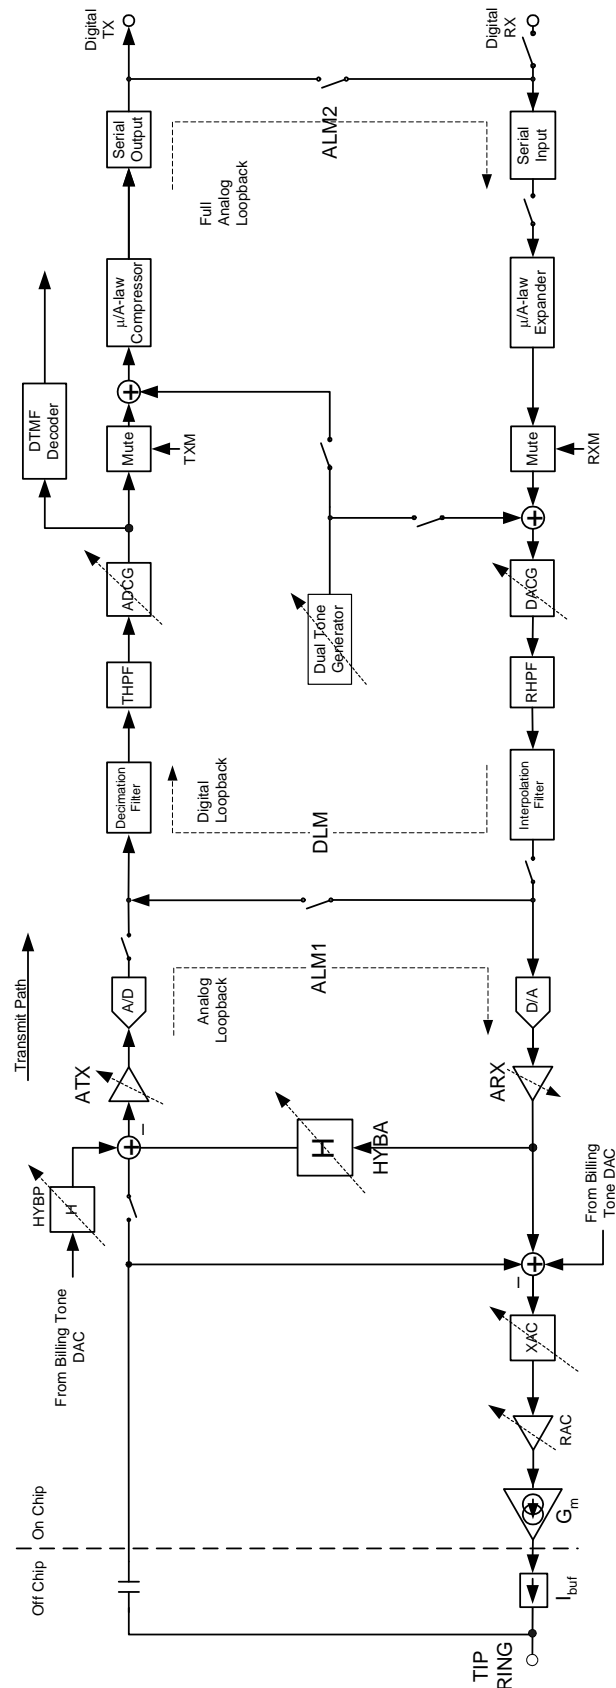

Figure 25. AC Signal Path Block Diagram
Unlike traditional SLICs, the codec function is integrated into the ProSLIC. The 16-bit codec offers programmable gain/attenuation blocks and several loopback modes. The signal path block diagram is shown in Figure 25.
The block diagram for the voice-band signal processing paths is shown in Figure 25. Both the receive and transmit paths employ the optimal combination of analog and digital signal processing to provide maximum performance while offering sufficient flexibility to allow users to optimize for their particular ProSLIC application. All programmable signal-processing blocks are indicated symbolically in Figure 25 by a dashed arrow across them. The two-wire (TIP/RING) voice-band interface to the ProSLIC is implemented using a small number of external components. The receive path interface consists of a unity-gain current buffer,  $I_{BUF}$ , while the transmit path interface is simply an ac coupling capacitor. Signal paths, although implemented differentially, are shown as single-ended for simplicity.
The ProSLIC provides programmable transhybrid balance with gain block H. (See Figure 25.) In the ideal case, where the synthesized SLIC impedance exactly matches the subscriber loop impedance, the transhybrid balance should be set to subtract a  $-6$  dB level from the transmit path signal. The transhybrid balance gain can be adjusted from  $-2.77$  dB to  $+4.08$  dB around the ideal setting of  $-6$  dB by programming the HYBA[2:0] bits of the Hybrid Control register (direct Register 11). Note that adjusting any of the analog or digital gain blocks will not require any modification of the transhybrid balance gain block, as the transhybrid gain is subtracted from the transmit path signal prior to any gain adjustment stages. If desired, the transhybrid balance can also be disabled using the appropriate register setting.
- The full analog loopback (ALM2) tests almost all the circuitry of both the transmit and receive paths. The compressed 8-bit word transmit data stream is fed back serially to the input of the receive path expander. (See Figure 25.) The signal path starts with the analog signal at the input of the transmit
- An additional analog loopback (ALM1) takes the digital stream at the output of the A/D converter and feeds it back to the D/A converter. (See Figure 25.) The signal path starts with the analog signal at the input of the transmit path and ends with an analog signal at the output of the receive path. This loopback option allows testing of the analog signal processing circuitry of the Si3210 to be carried out completely independently of any activity in the DSP.
- The full digital loopback tests almost all the circuitry of both the transmit and receive paths. The analog signal at the output of the receive path are fed back to the input of the transmit path by way of the hybrid filter path. (See Figure 25.) The signal path starts with 8-bit PCM data input to the receive path and ends with 8-bit PCM data at the output of the transmit path. The user can bypass the companding process and interface directly to the 16-bit data.
Real and complex two-wire impedances are realized by internal feedback of a programmable amplifier (RAC), a switched capacitor network (XAC), and a transconductance amplifier ( $G_m$ ). (See Figure 25.) RAC creates the real portion, and XAC creates the imaginary portion of  $G_m$ 's input.  $G_m$  then creates a current that models the desired impedance value to the subscriber loop. The differential ac current is fed to the subscriber loop via the ITIPP and IRINGP pins through an off-chip current buffer,  $I_{BUF}$ , which is implemented using